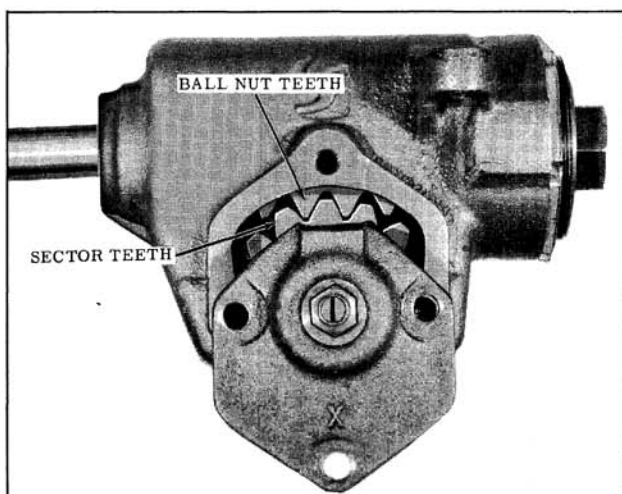

Fig. 8-19 Sector and Ball Nut Centered
3. Install pitman shaft and side cover assembly and gasket, with sector and ball nut teeth centered as shown in Fig. 8-19. Torque side cover bolts to 22 ft. lbs.